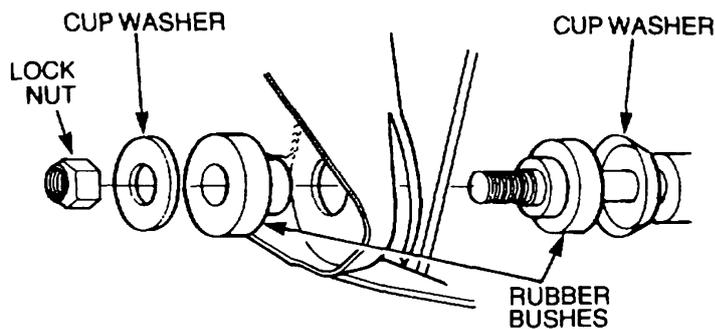

Figure 147 Radius Arm Bush Removal
- f. Remove the locknut, washers and rubber bushes from the chassis end of the arm (Figure 147). Discard the locknut.